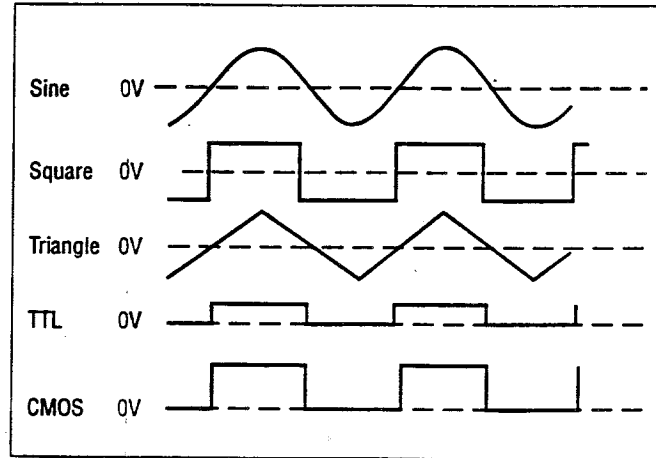

Figure 2. Output Waveform and Phase Relationship
1. Initially, verify that the **DUTY CYCLE** (14), **CMOS LEVEL** (13), **DC OFFSET** (12), **-20dB** (11), switches are in the **OUT** position (released). This will produce a symmetrical waveform unaffected by the other controls.
2. Plug the unit into an appropriate power source and turn it on by engaging the **POWER** switch (1).
3. Select the desired waveform (**SINE**, **SQUARE**, or **TRIANGLE**) by engaging one of the **FUNCTION** switches (3). Phase relationships of the waveforms are shown in Fig. 2.
4. Select the frequency of the waveform by engaging one of the **RANGE** switches (2). The output frequency is displayed, along with the appropriate measurement units, **KHz** or **Hz** (19), on the LED display.
5. Rotate the **COARSE** (16) frequency control to quickly set the output frequency to the approximate desired value. The **FINE** (15) frequency control can then be used to easily set the output to the specific desired value. The frequency selected is available at the **OUTPUT** jack (6). In addition, a digital signal, either **TTL** or **CMOS** is available at the **TTL/CMOS** jack (7) (refer to the "TTL/CMOS OUTPUT" section of this manual).